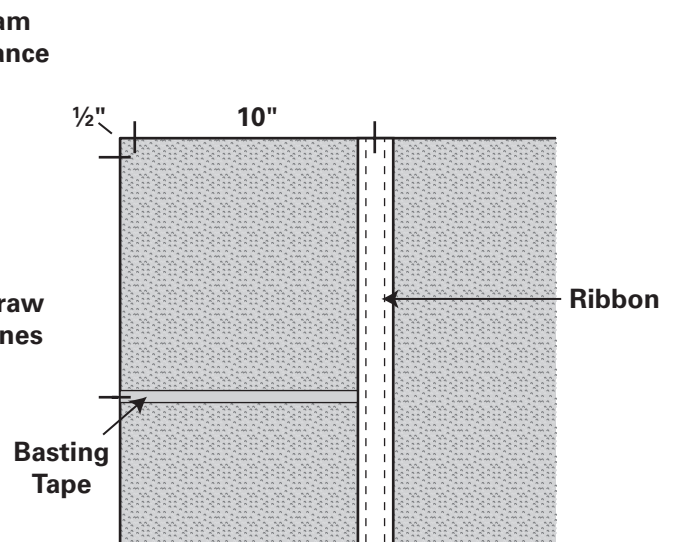

Fig. 14-3
- of ribbon over each strip of basting tape. Sew the ribbons in place, stitching close to each edge of each ribbon. (Fig. 14-3)